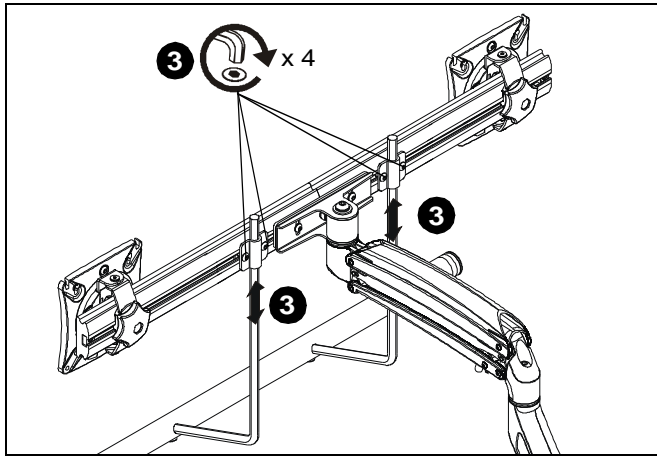

Figure 15
- Position handle (J2) at desired height and secure by tightening button head cap screws attaching handle brackets to array. (See Figure 15)